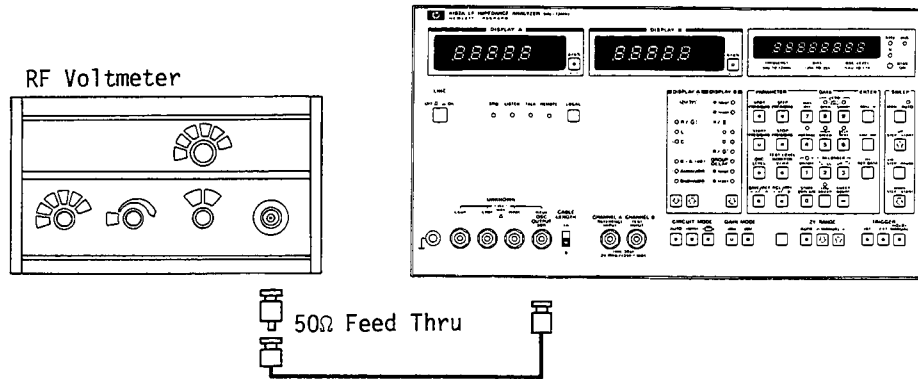

Figure 4-2. Measurement Signal Level Accuracy Test Setup.
- a. Connect the HCUR terminal of the 4192A to the input of the 3403C through the 50Ω termination as shown in Figure 4-2.